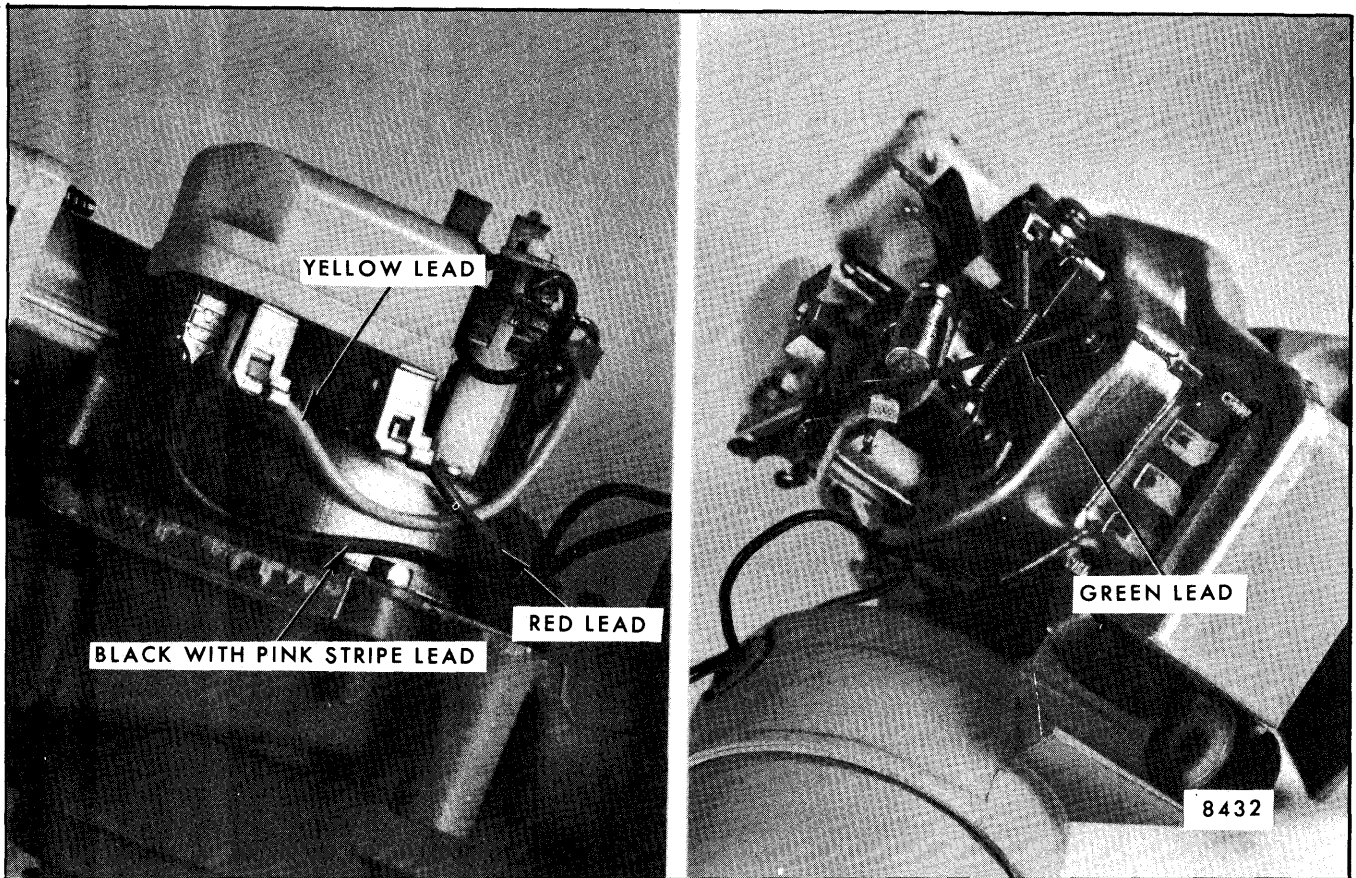
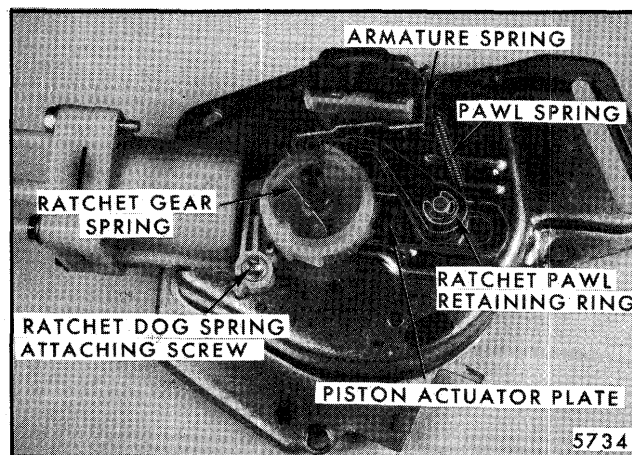

Fig. 2-77-Modified Pulse Relay Terminals and Leads
Fig. 2-81-Ratchet Pawl
3. Disconnect the green lead from terminal 1A, red and black with pink stripe leads from pulse relay terminals (Fig. 2-77).
4. Route and attach the red, green and black with pink stripe leads as shown in Figure 2-77.
- d. Reconnect red and yellow leads to appropriate pulse relay terminals (Fig. 2-77).
- a. Follow step a under item 3.
- b. Remove dog spring assembly (Fig. 2-81).
- c. Remove ratchet pawl retaining ring, disconnect pawl spring and slide pawl off cam-follower shaft (Fig. 2-81).
- d. Disconnect relay armature spring and remove armature (Fig. 2-81).